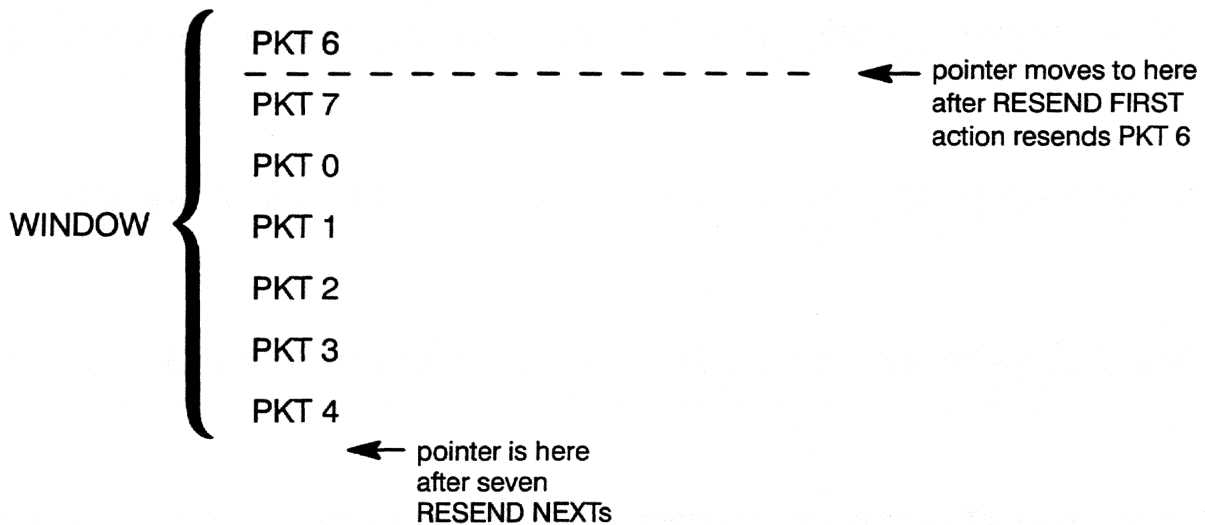

Figure 38-32 RESEND FIRST resets the pointer, allowing you to resend the entire window repeatedly.
1. *Resend first/next.* RESEND FIRST means that the resend—pointer is reset to the beginning of the window, the first packet in the window is resent, and the pointer is advanced to the second position in the window. The effect of a RESEND FIRST action is illustrated in Figure 38-32.